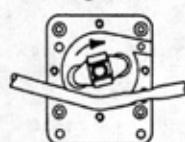

Figure 9-1
- 6 Position the roller racket assembly as shown in Figure 9-1.